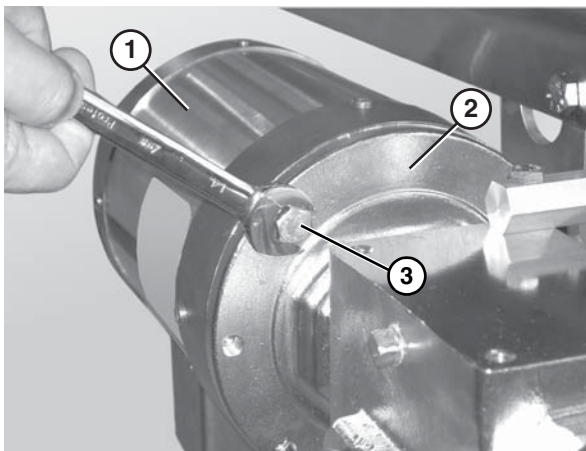

Figure 54
1. Remove the bolts that connect the motor to the drive assembly (**Figure 54, item 3**).
2. Remove the motor (**Figure 54, item 1**) from the drive assembly (**Figure 54, item 2**).